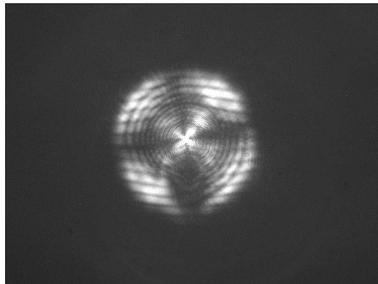

Figure 6.11: *The image of a trap on the video camera*
6. Increase the camera exposure time until you see the laser as white scattered light (Fig. 6.11)